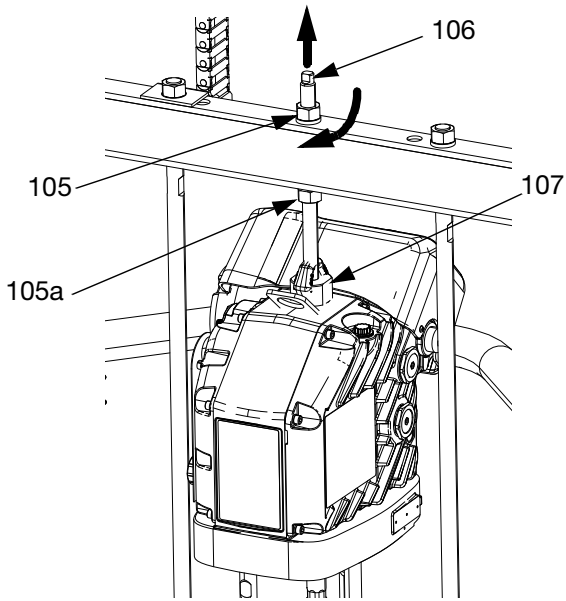

FIG. 24
- a. Use wrench on nut (105) on top of ram bar to lower driver onto displacement pump. See FIG. 24 on page 34. Thread nut (105) up and tighten it under ram bar. Tighten nut (105) below the crossbar to 25 ft-lb (34 N•m) maximum.